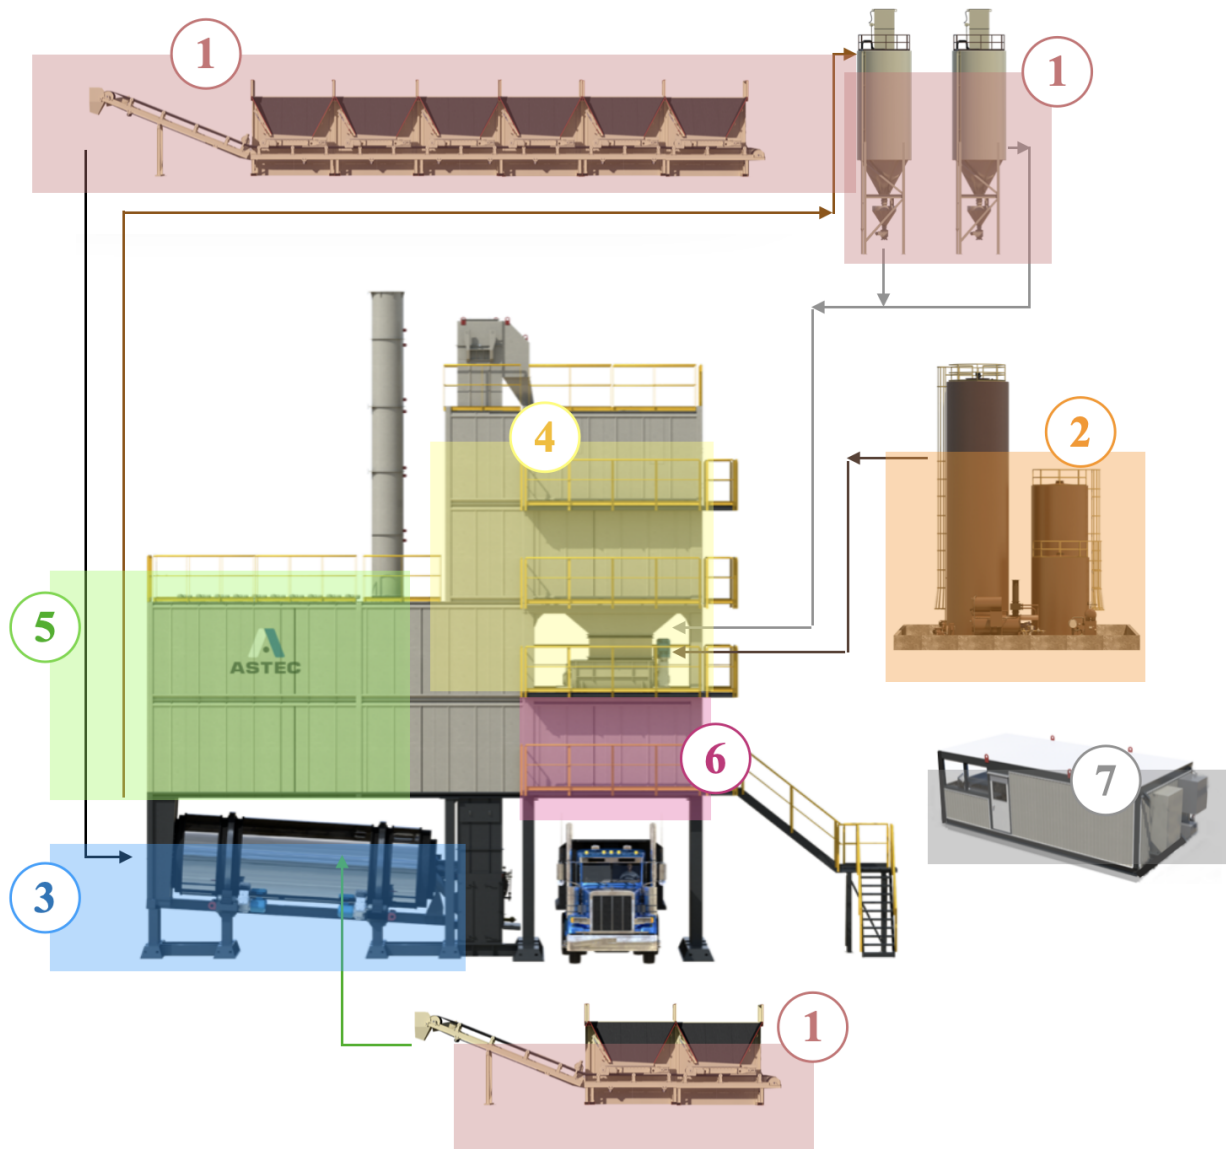

Figure 2. Asphaltic concrete batch tower facility layout
- Figure 2. Asphaltic concrete batch tower facility general layout